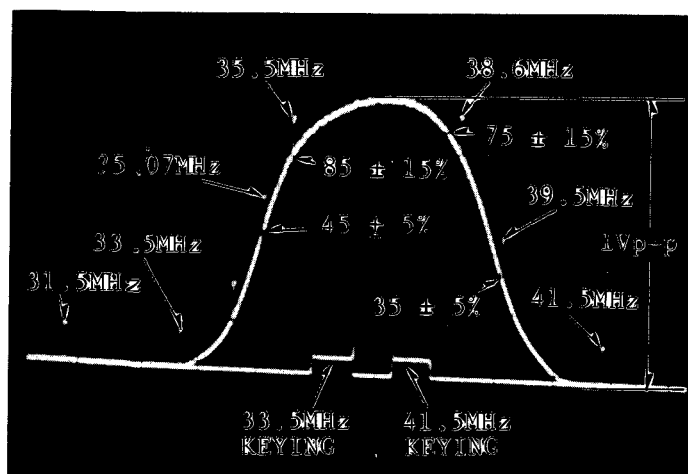

Fig. E16. VIF Waveform
2. Set the Channel Selector to the VHF High position (VH) and set the tuning button so that the voltage at pin 1 of P7001 becomes  $11 \pm 0.5V$  DC.
11. Adjust T703 (A) so that the attenuation of the 41.5MHz trap becomes maximum.
12. Adjust T701 and (C)(D)(E)(G) of T703 so that the sweep output waveform becomes as shown Fig. E16.